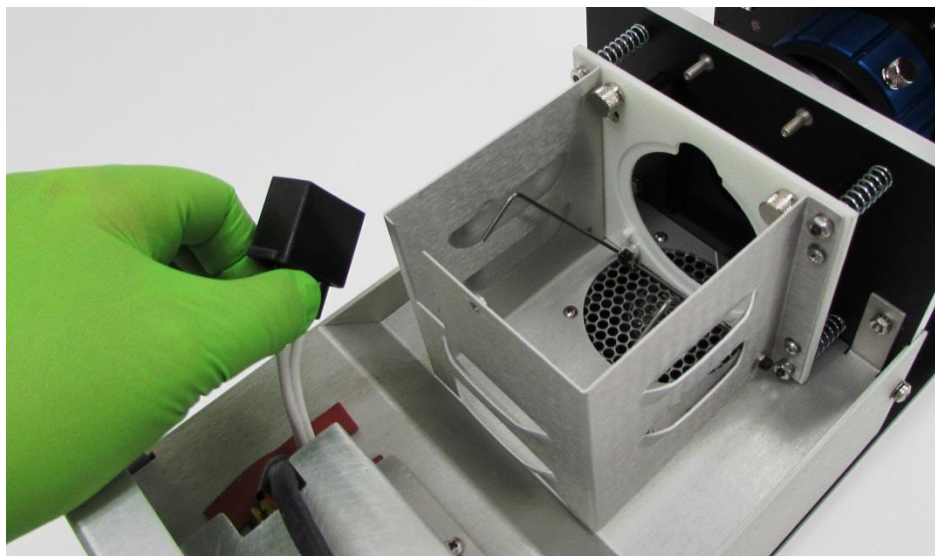

Figure 11: Unfasten Power Supply Cable
5. The power supply cable shown in Figure 11 is secured for transportation. Unfasten it and let it hang to the side for now.